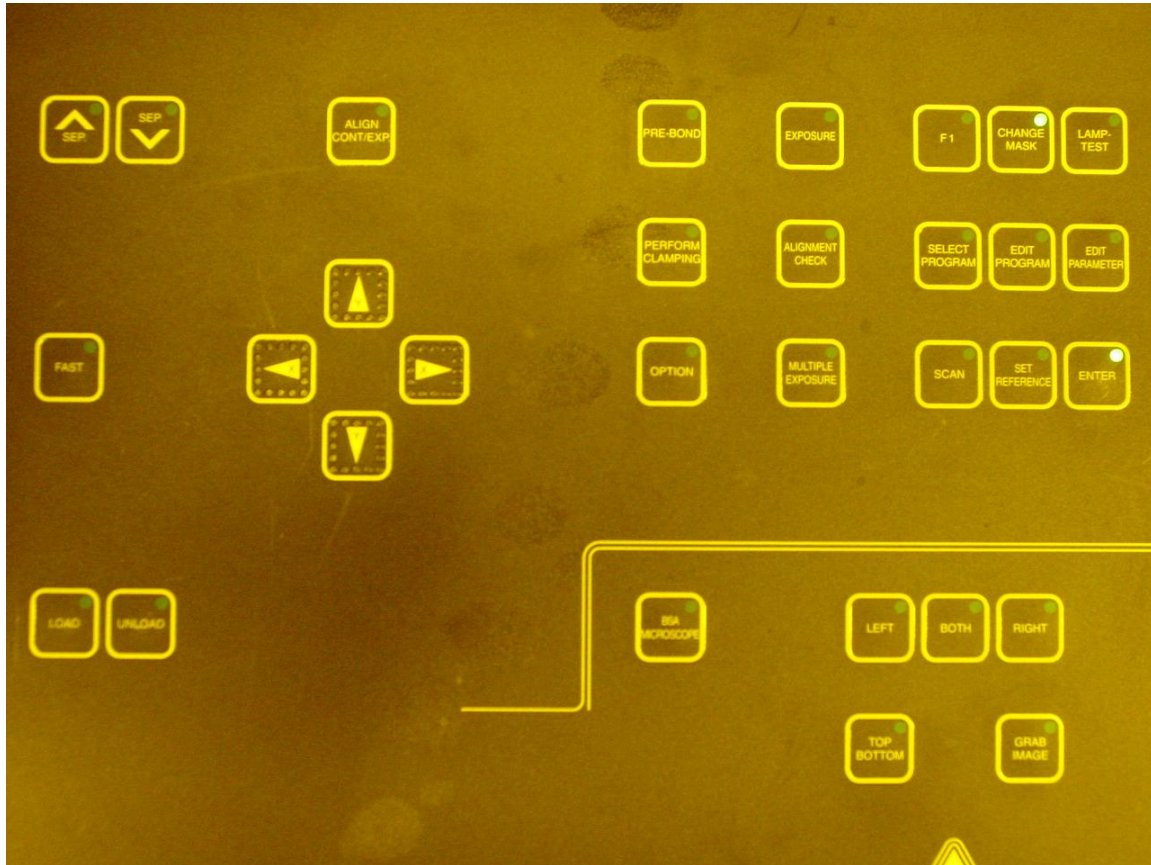

Figure 3. Main Control Keyboard – operator control interface for operation.
This membrane keyboard is the main operator interface for machine operation and is shown in Figure 3 for reference.
- Press the LOAD button on the Main Control Keyboard (Figure 3) to initialize the electronics and mechanics.